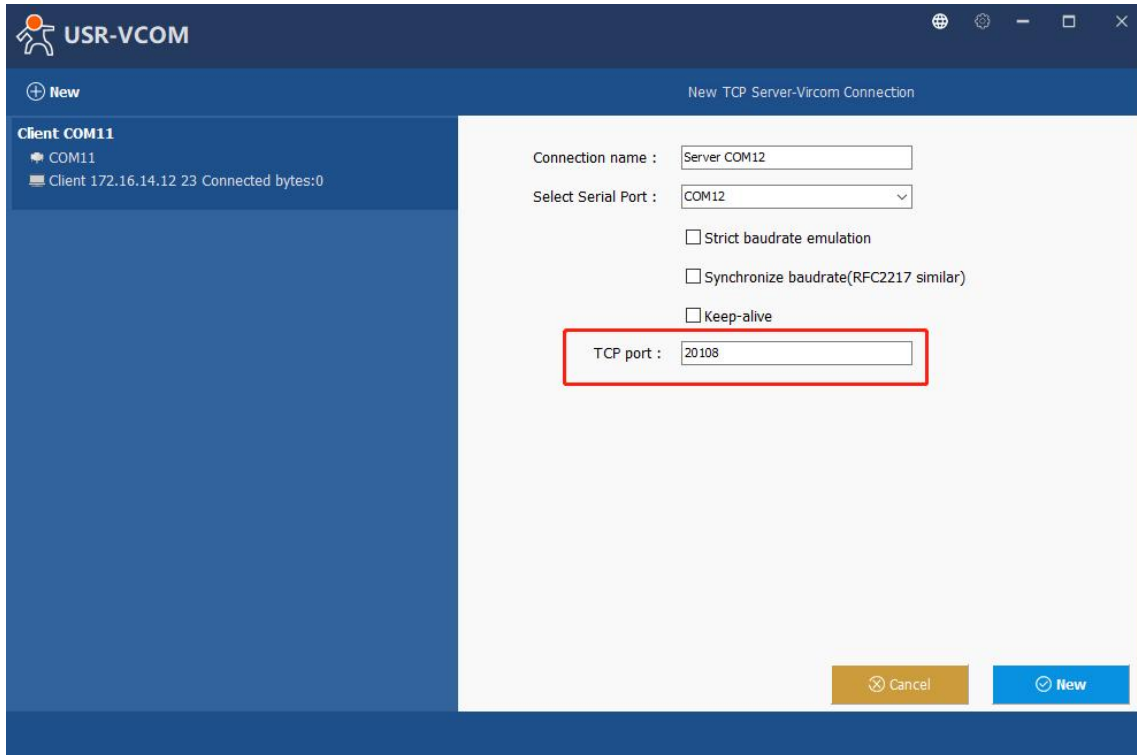

Fig. 64 Virtual COM port mapping
2. Select one COM port as the Virtual COM port before proceeding as shown in Fig.64. Note that if a COM port number is used by other application or your operating system, you can not select it.